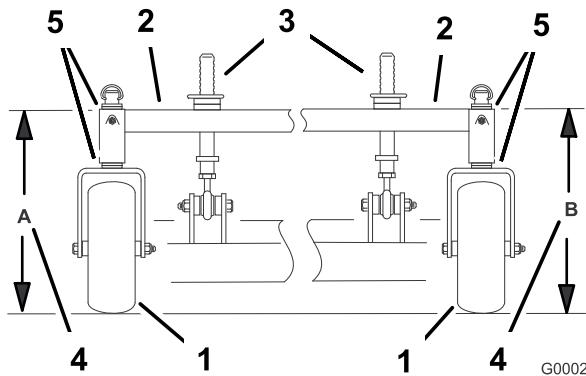

Figure 65
4. Measure carrier frame height at location **A** (Figure 65).
5. Measure carrier frame height at location **B** (Figure 65).